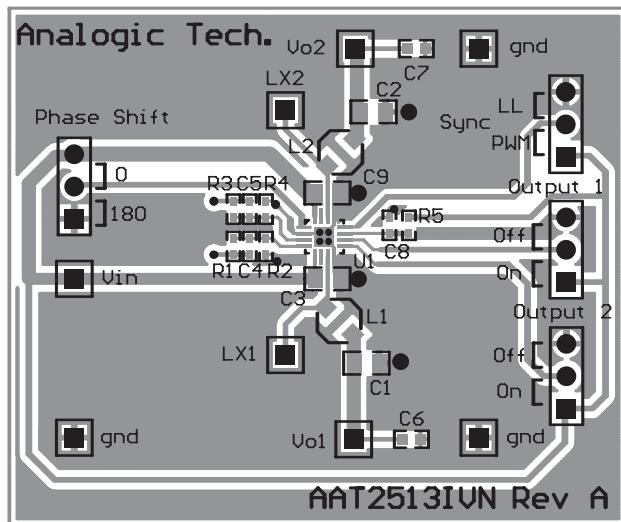

Figure 3: AAT2513 Evaluation Board
1. Due to the pin placement of  $V_{IN}$  for both converters, proper decoupling is not possible with just one input capacitor. The input capacitors C3 and C9 should connect as closely as possible to the respective  $V_{IN}$  and GND as shown in Figure 3.